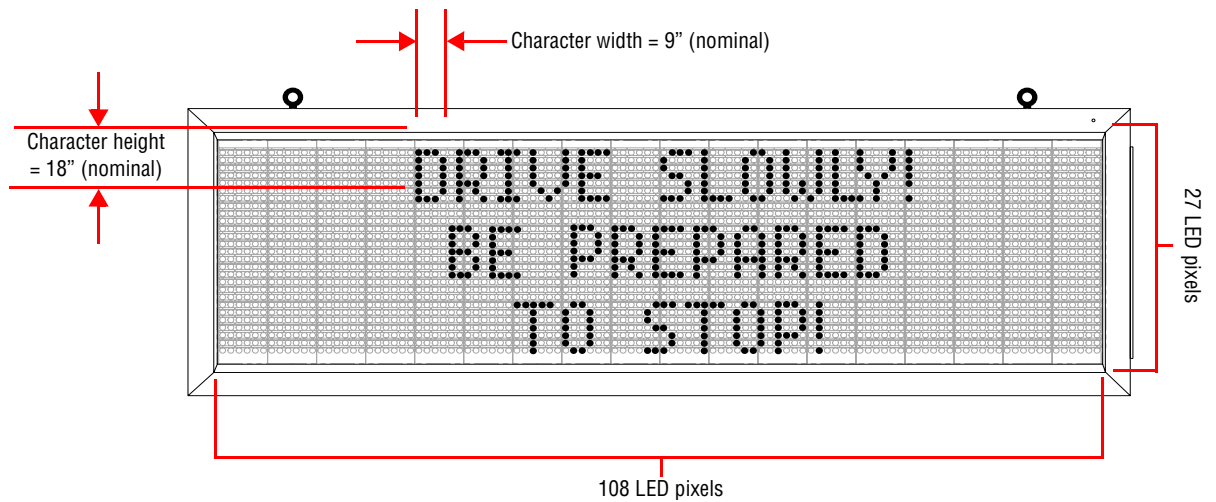

Figure 1: Display size
- Display size: 27 LED pixel rows x 108 LED pixel columns (see Figure 1).
- Character height: 18 inches, nominal (see Figure 1).
- Character width: 9 inches, nominal (see Figure 1).